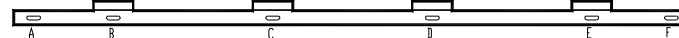

Figure 2
2. The wall-mounting bracket must be mounted to at least two wall studs. Studs should be accessed through two wall-bracket holes in one of the following combinations: A&F, B&D, or C&E (FIGURE 2).